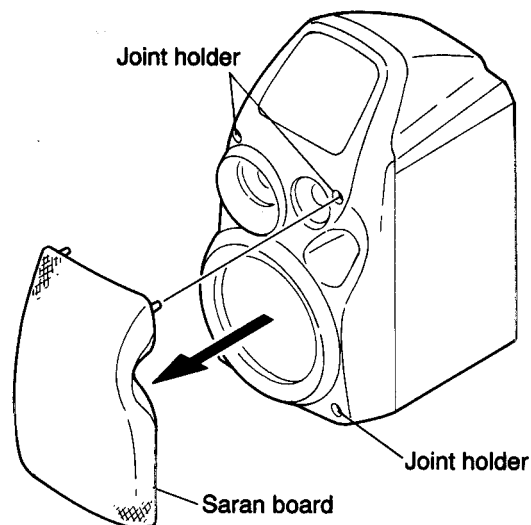

Fig. 5-59
■ **Removing the Saran board** (See Fig. 5-59.)